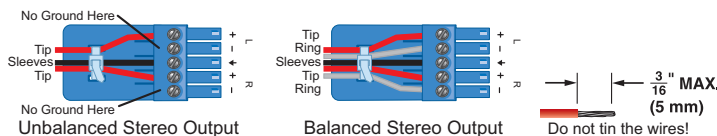

Figure 3. Wiring the Audio Output Connector
- D Audio output connector** — Connect an amplifier or display to this female 5-pole captive screw connector for analog output as shown in figure 3.